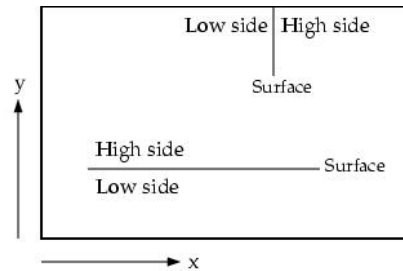

Figure 26.6.2: High- and Low-Side Surface Definition
- Planar surfaces and objects are considered to have *high* and *low* ends. Such surfaces and objects (unless they are inclined) are always aligned with a coordinate plane and normal to one of the coordinate directions. If, for example, a surface lies in the x - y plane, the z axis is normal to the plane. The high side of a plane or object is the side for which the normal points in the direction of increasing coordinate value. The low side is the side for which the normal points in the direction of decreasing coordinate value. Figure 26.6.2 shows an example of high- and low-side surface definitions for two surfaces aligned with the x - z and y - z planes.